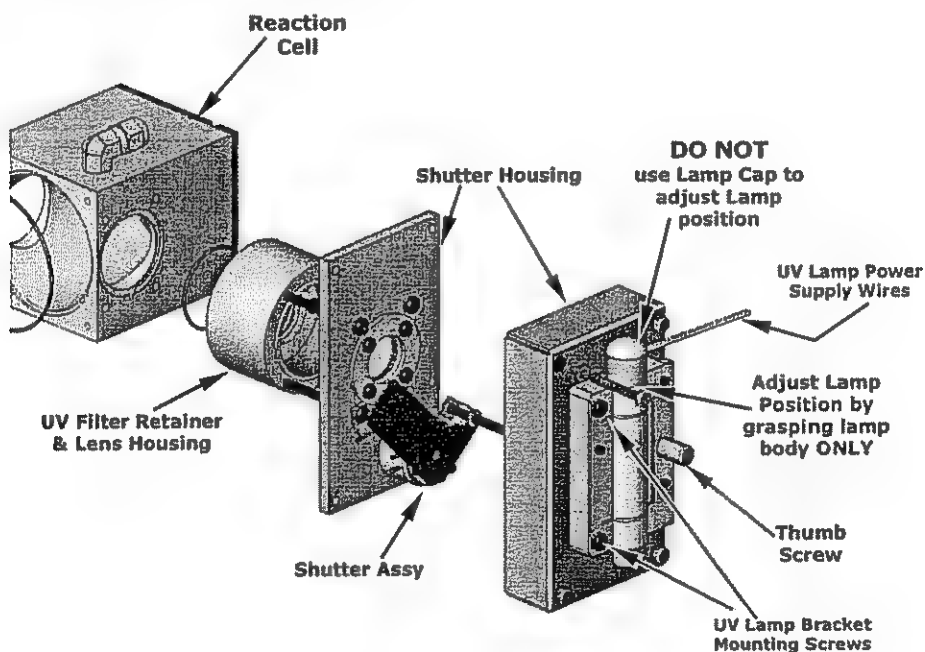

Figure 11-14: Shutter Assembly - Exploded View
2. Slightly loosen the large brass thumbscrew located on the shutter housing (see Figure 11-14) so that the lamp can be moved.
DO NOT grasp the UV lamp by its cap when changing its position (see Figure 11-14). Always grasp the main body of the lamp.
3. Loosen, but do not remove the two UV lamp bracket screws and the large brass thumbscrew located on the shutter housing (see Figure 11-14) so that the lamp can be moved.
**DO NOT grasp the UV lamp by its cap when changing its position (see Figure 11-14).